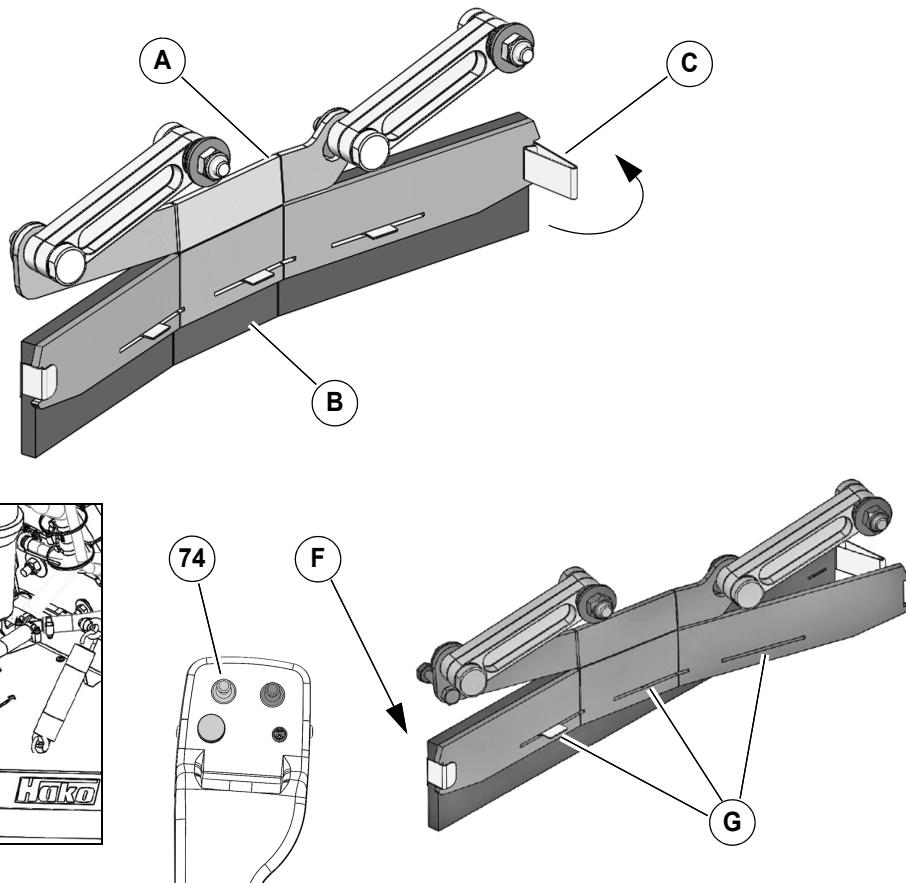

Fig. 243:
Check the lateral deflectors **Fig. 243-A** of the scrubbing deck daily.
Turn or replace worn sealing strips **Fig. 243-B**. The sealing strips **Fig. 243-B** and mounting clamps **Fig. 243-C** can be removed without tools.
2. The sealing strip can be removed with the mounting clamps by laterally pulling on the clamp **Fig. 243-C** of the mounting clamps.
4. Insert the sealing strip and the mounting clamps on one side **Fig. 243-F** of the holder. The guide lugs slide into the slots **Fig. 243-G**. This ensures the correct height position.